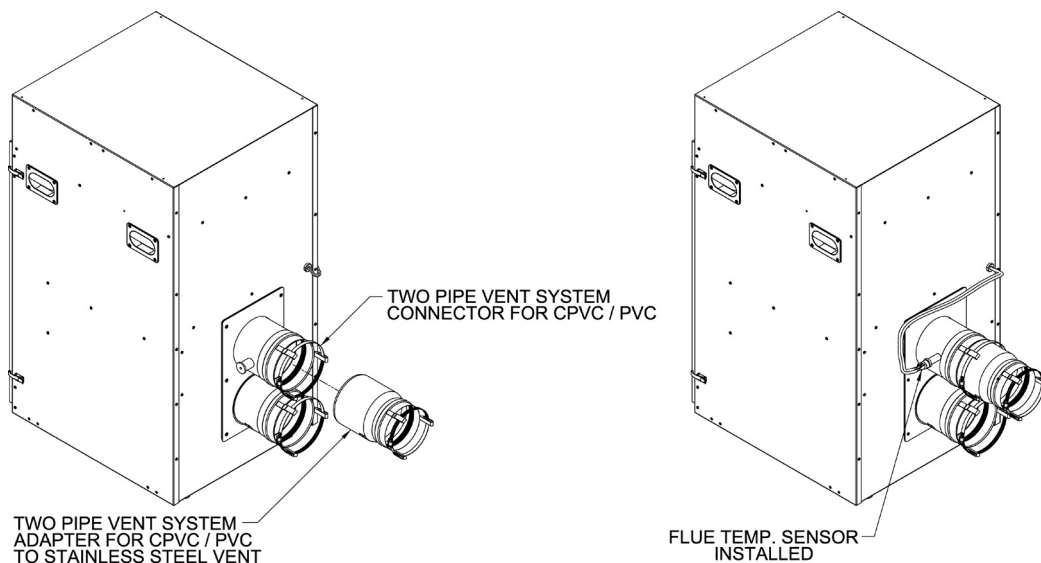

Figure 4-45: Field Installation of Two-Pipe Vent System Adapter for Stainless Steel
- c. Push and twist PVC to stainless steel adapter into two-pipe vent system connector vent or combustion air supply port until bottomed out. See Figure 4-45.
3. Field Installation of PVC to Stainless Steel Adapter into 90° Vent Elbow – Wall Mounted Boiler (W) Builds